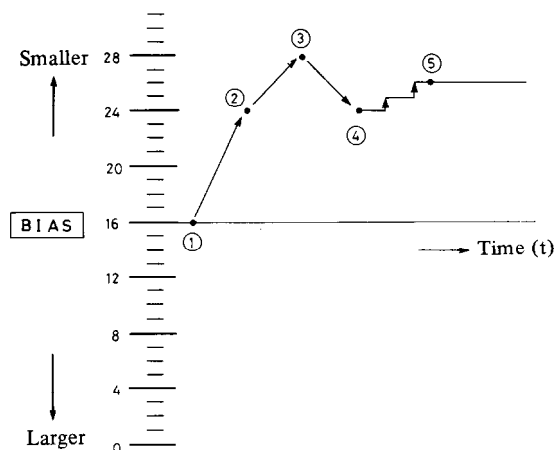
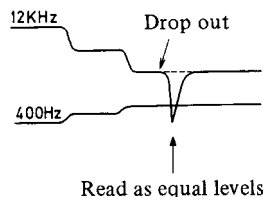
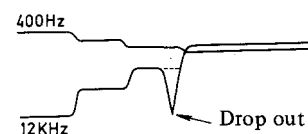

Fig. 2 Bias adjustment method
Fig. 3 Example of misoperation
Fig. 4 Example where effect of drop out is avoided
First the bias is set to step 16 which is in the center of the bias range shown in Figure 2. Then the 400Hz/12kHz mixed signal is subjected to a comparison operation to see which component is larger. If the 12kHz signal is larger, then the bias level is too small. If the 400Hz signal is larger, on the other hand, the bias level is too large. In the example shown in Figure 2, the bias level at step 16 is too large, so the bias is reduced by $\frac{1}{4}$ of the total range (8 steps) to position (2) where the 400Hz and 12kHz components are again compared. If the 400Hz signal is still larger than the 12kHz signal, the bias level is further reduced by $\frac{1}{2}$ of the total (4 steps) (3) and the components then compared again. This procedure is used for rough adjustment of the optimum bias. If at this stage, the 12kHz signal is now found to be greater than the 400Hz signal, the optimum bias is known to exist between steps 24 and 28. The operation is now switched to fine adjustment — the bias is increased by $\frac{1}{4}$ and then reduced one step at a time from step 24. The step where the component signal size relationship is switched from $400 > 12k$ to $12k > 400$ is taken as the optimum bias (5), and the bias is set at this level. This fine adjustment operation proceeds only from greater to lower bias levels in order to avoid misoperation due to possible drop outs. The effects of a drop out on the bias adjustment when the bias is changed from a smaller to a larger level is indicated in Figure 3, while the reverse case is indicated in Figure 4.